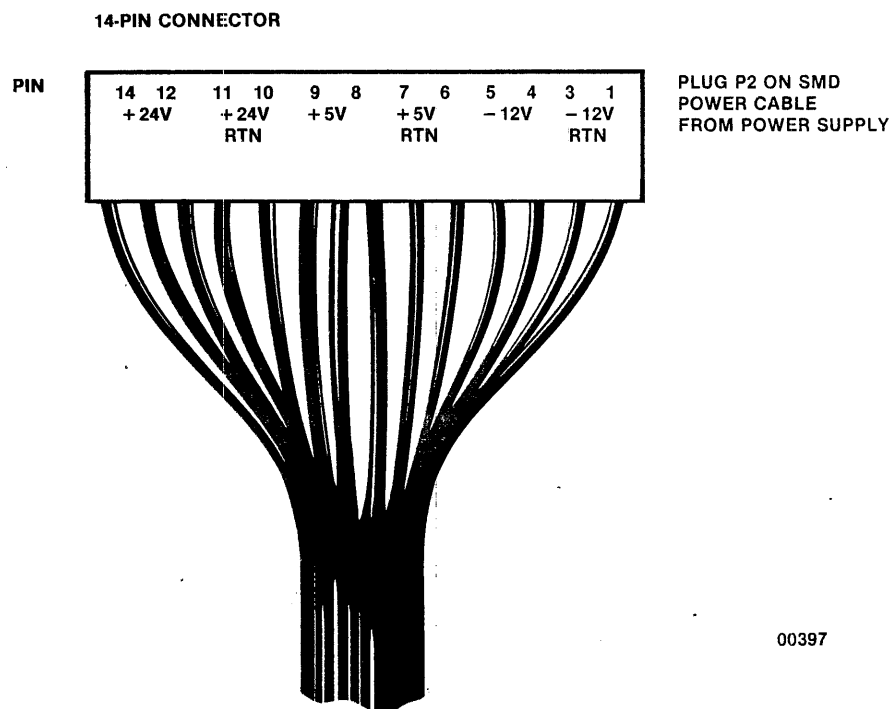

Figure 5-7 Voltage Test Points, SMD Power Connector
3. Voltage adjustments on the power supply are for -5.2 Vdc (-5VDC ADJ), +5 Vdc (+5VDC ADJ), -24 Vdc (-24VDC ADJ), and +24 Vdc (+24VDC ADJ). (Refer to Figure 5-7 for location of adjustment potentiometers).
2. DC output voltages are checked at the SMD input power cable power connector P2 located on the rear of the SMD (Figure 5-7).